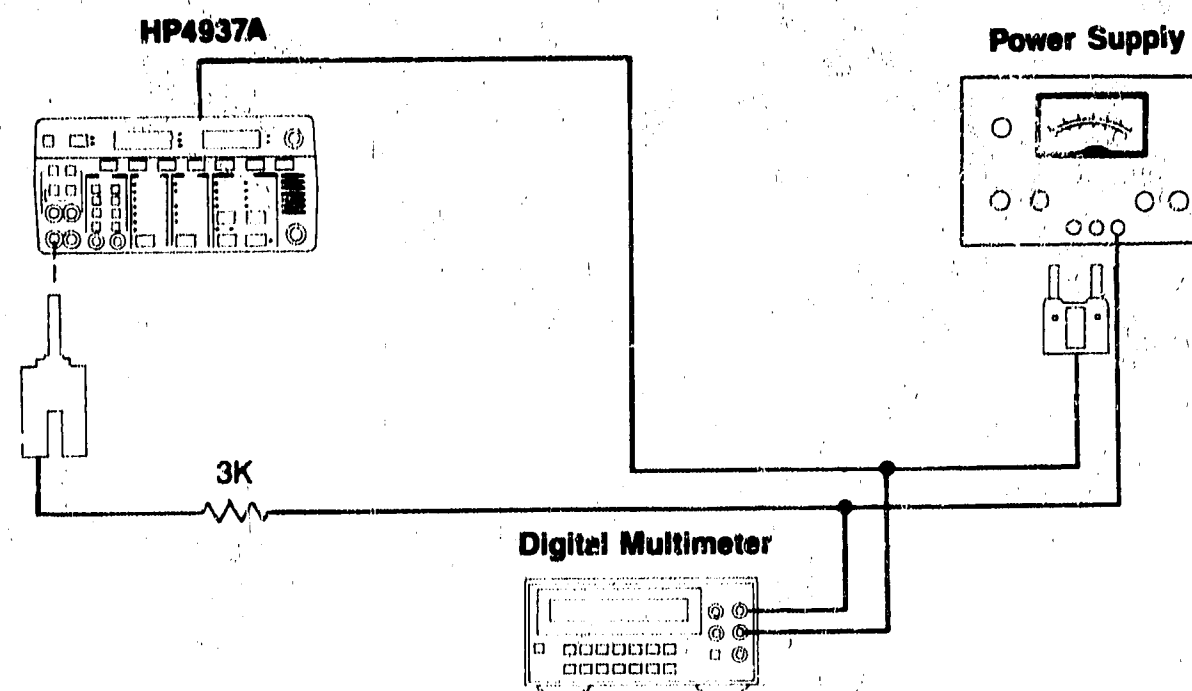

Figure 4-17B. E/M Signaling Type III
9. Connect the equipment as shown in Figure 4-17B. (The ground connection of the HP 4937A is on the rear panel.)